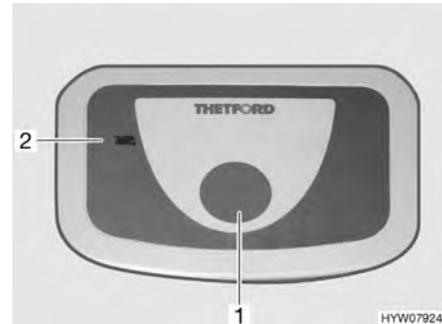

Fig. 192 Flush button/indicator lamp Thetford toilet
- For flushing, press the blue flush button (Fig. 192,1).
The indicator lamp (Fig. 192,2) goes on whenever the Thetford cassette has to be emptied.